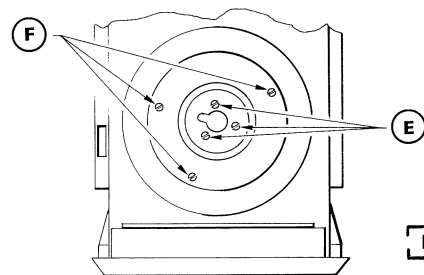

Figure 5.10
- Unscrew the three screws E — Figure 5.10
- Unscrew the three nuts F — Figure 5.10